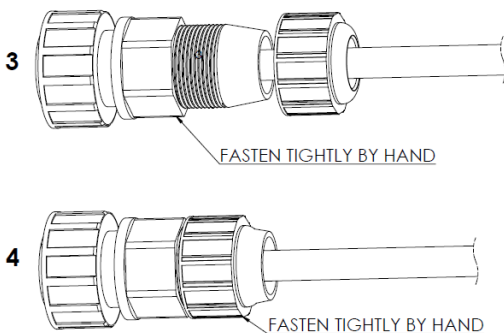

Figure 5
Step 7: Connect the PoE midspan input connector to a minimum 2.2 Amps rated input cable, make sure to assemble the inlet connector as shown in figure 5.
- The power connector supplied with the PoE Midspan has 3 terminals; '+' (POS), '-' (NEG), and one which is not connected (See Figure5).
- Assemble the inlet connector as shown at Figure 5